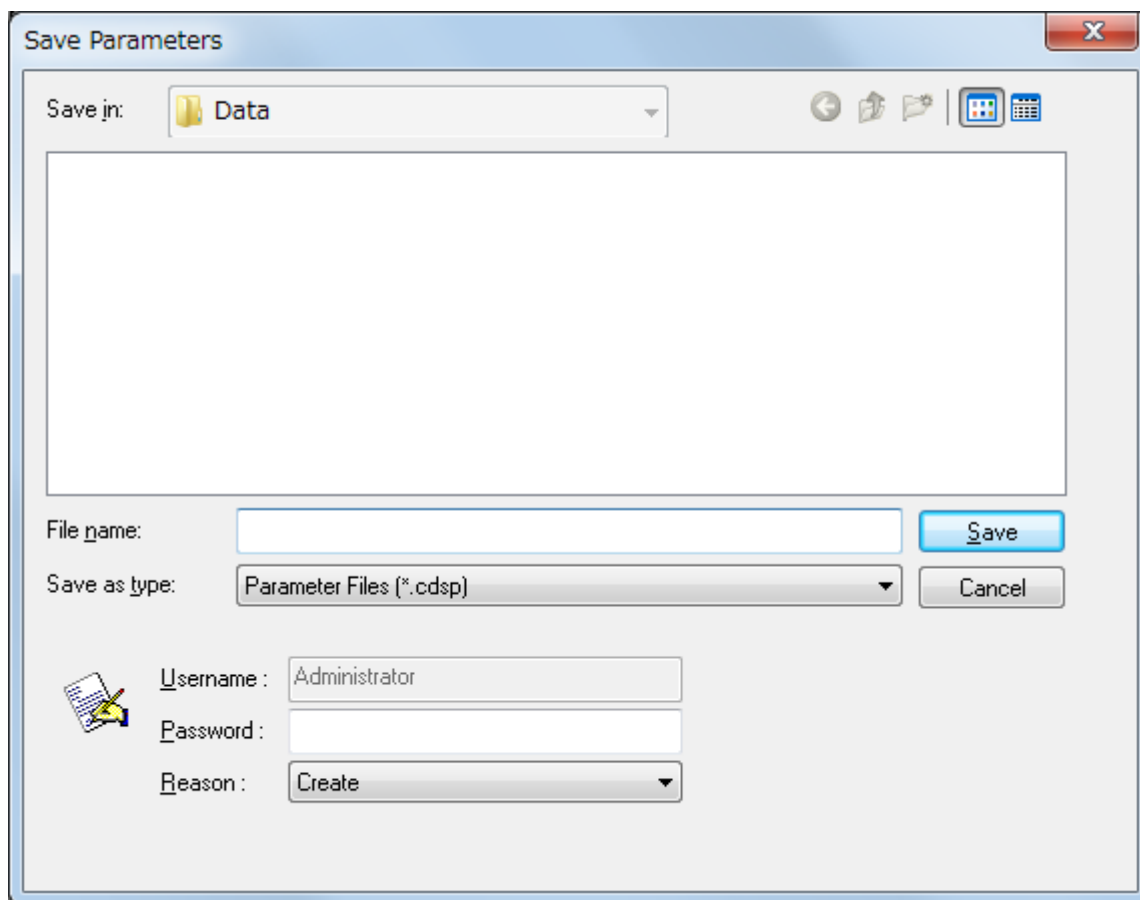

Figure 4.7 [Save Parameters] dialog box
- (7) In the CFR version, always save changes to the parameters. Click the <Save...> button to display the dialog box in Fig. 4.7.